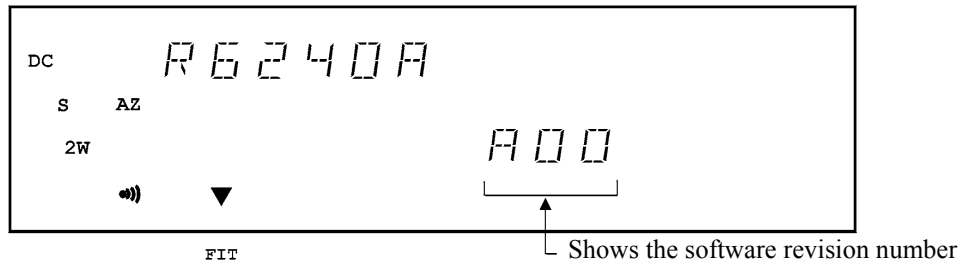
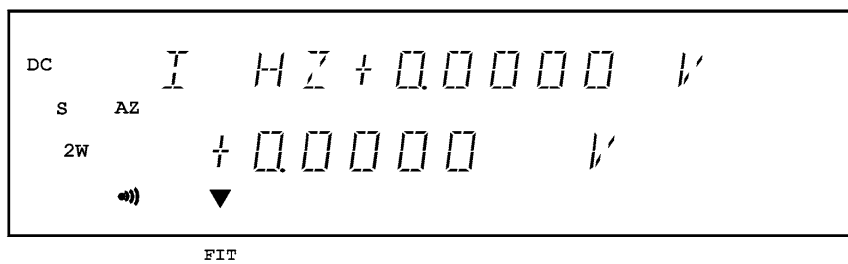

Figure 1-7 Screen Displaying Self-Test Completion
Figure 1-8 Start-up Screen
When the test is complete, the model name, line frequency, GPIB address, and software revision appear on the screen (Figure 1-7) and then the start-up screen is displayed (Figure 1-8).
1. Depending on the previous conditions, the screen display may be different from Figure 1-8.